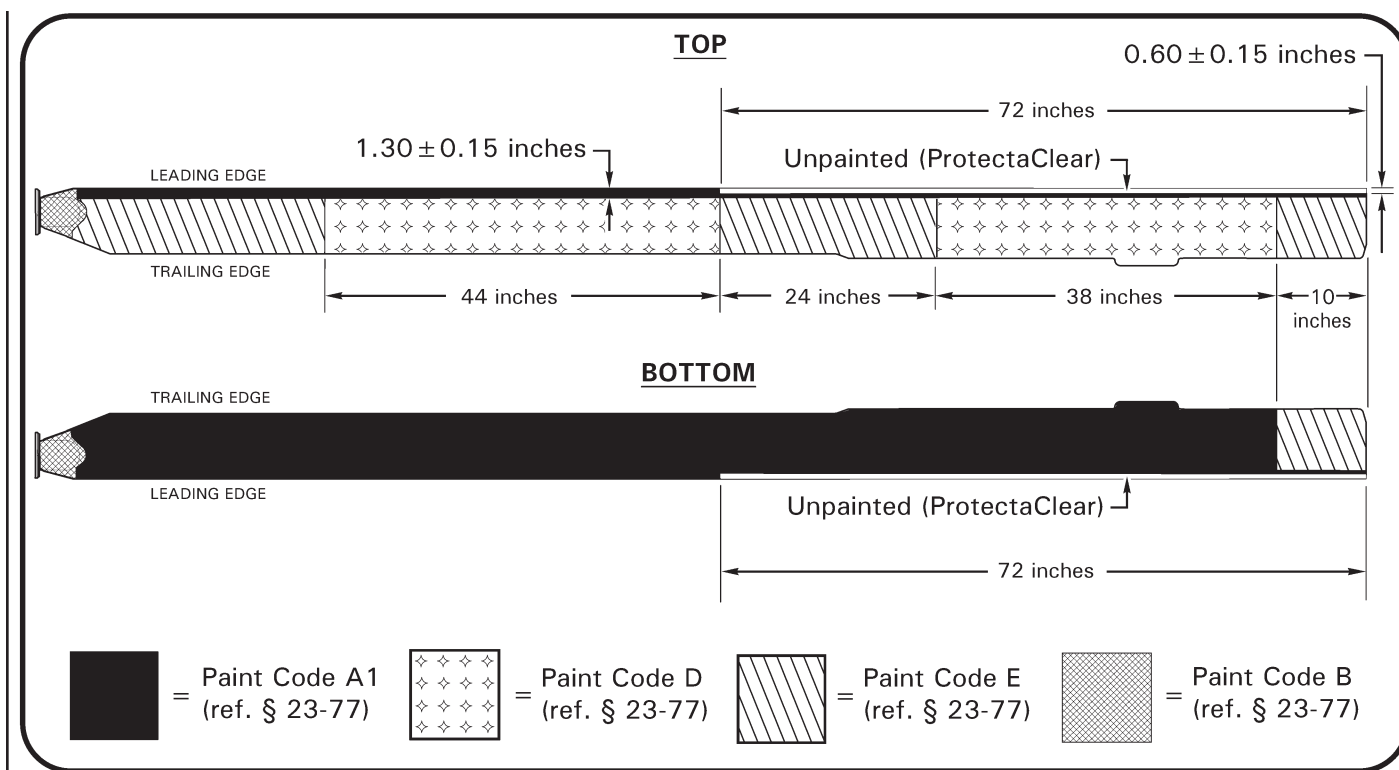

FIGURE 26-17 MAIN ROTOR BLADE PAINT SCHEME (A016-6 BLADE SHOWN)
6. Refer to Figure 26-17. Apply dark gray (root), flat black, white, and/or yellow polyurethane enamel, as required, to primed area in accordance with paint manufacturer's recommendations.
Refer to Figure 26-17. Outboard leading edge may be paint-stripped per Part C or repainted per § 26-52. Repaint inboard leading edge per § 26-52 if required.
5. Refer to Figure 26-17. Using 3M vinyl tape (or equivalent), apply masking to blade(s). Protect blade(s) and helicopter from overspray contamination.